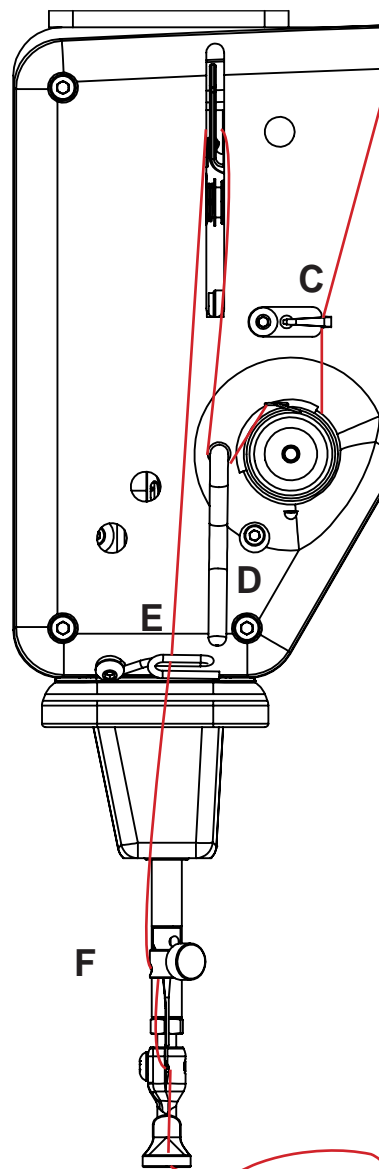

Figure 13
3. Thread continues through thread guide C, and then down to the tension assembly (see Figure 13).
6. Pull the thread down to the needle thread guide and thread through the hole for thread guide F (see Figure 13).